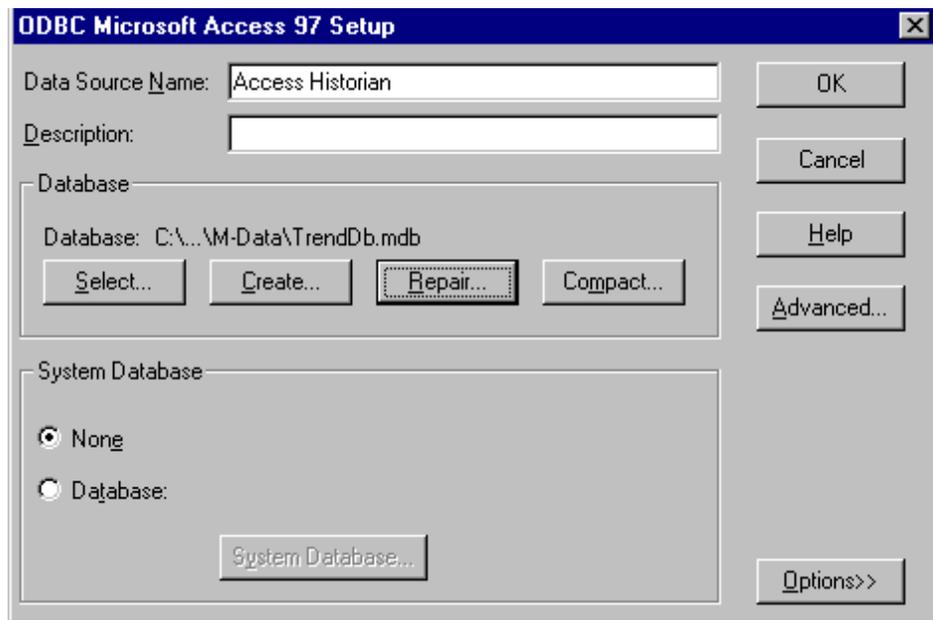
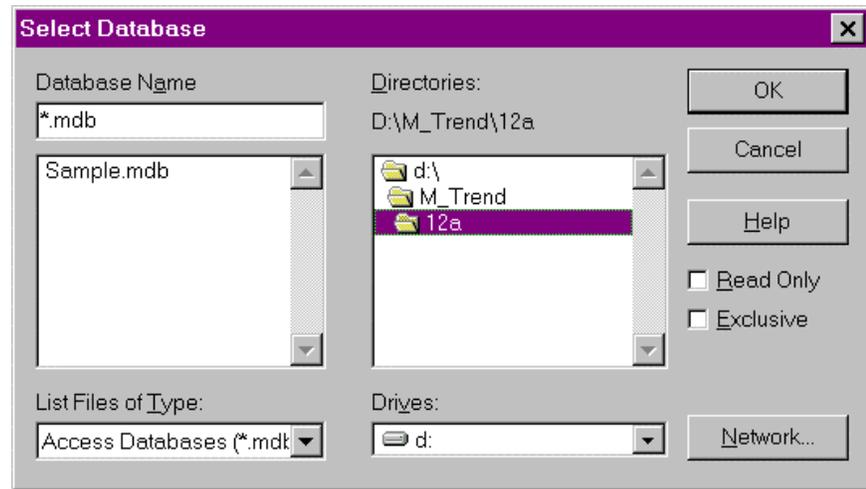

Figure A-3: Microsoft Access 97 ODBC Driver Setup Screen
Figure A-4: Select Database Screen
Figure A-3 shows the ODBC Microsoft Access 97 Setup screen when choosing a Microsoft Access Driver.
6. Under the Database section of the ODBC Setup screen (Figure A-3), click on Select... The Select Database screen appears (Figure A-4).
7. Browse to and select a data source, then click OK. The ODBC Setup screen reappears (Figure A-3).